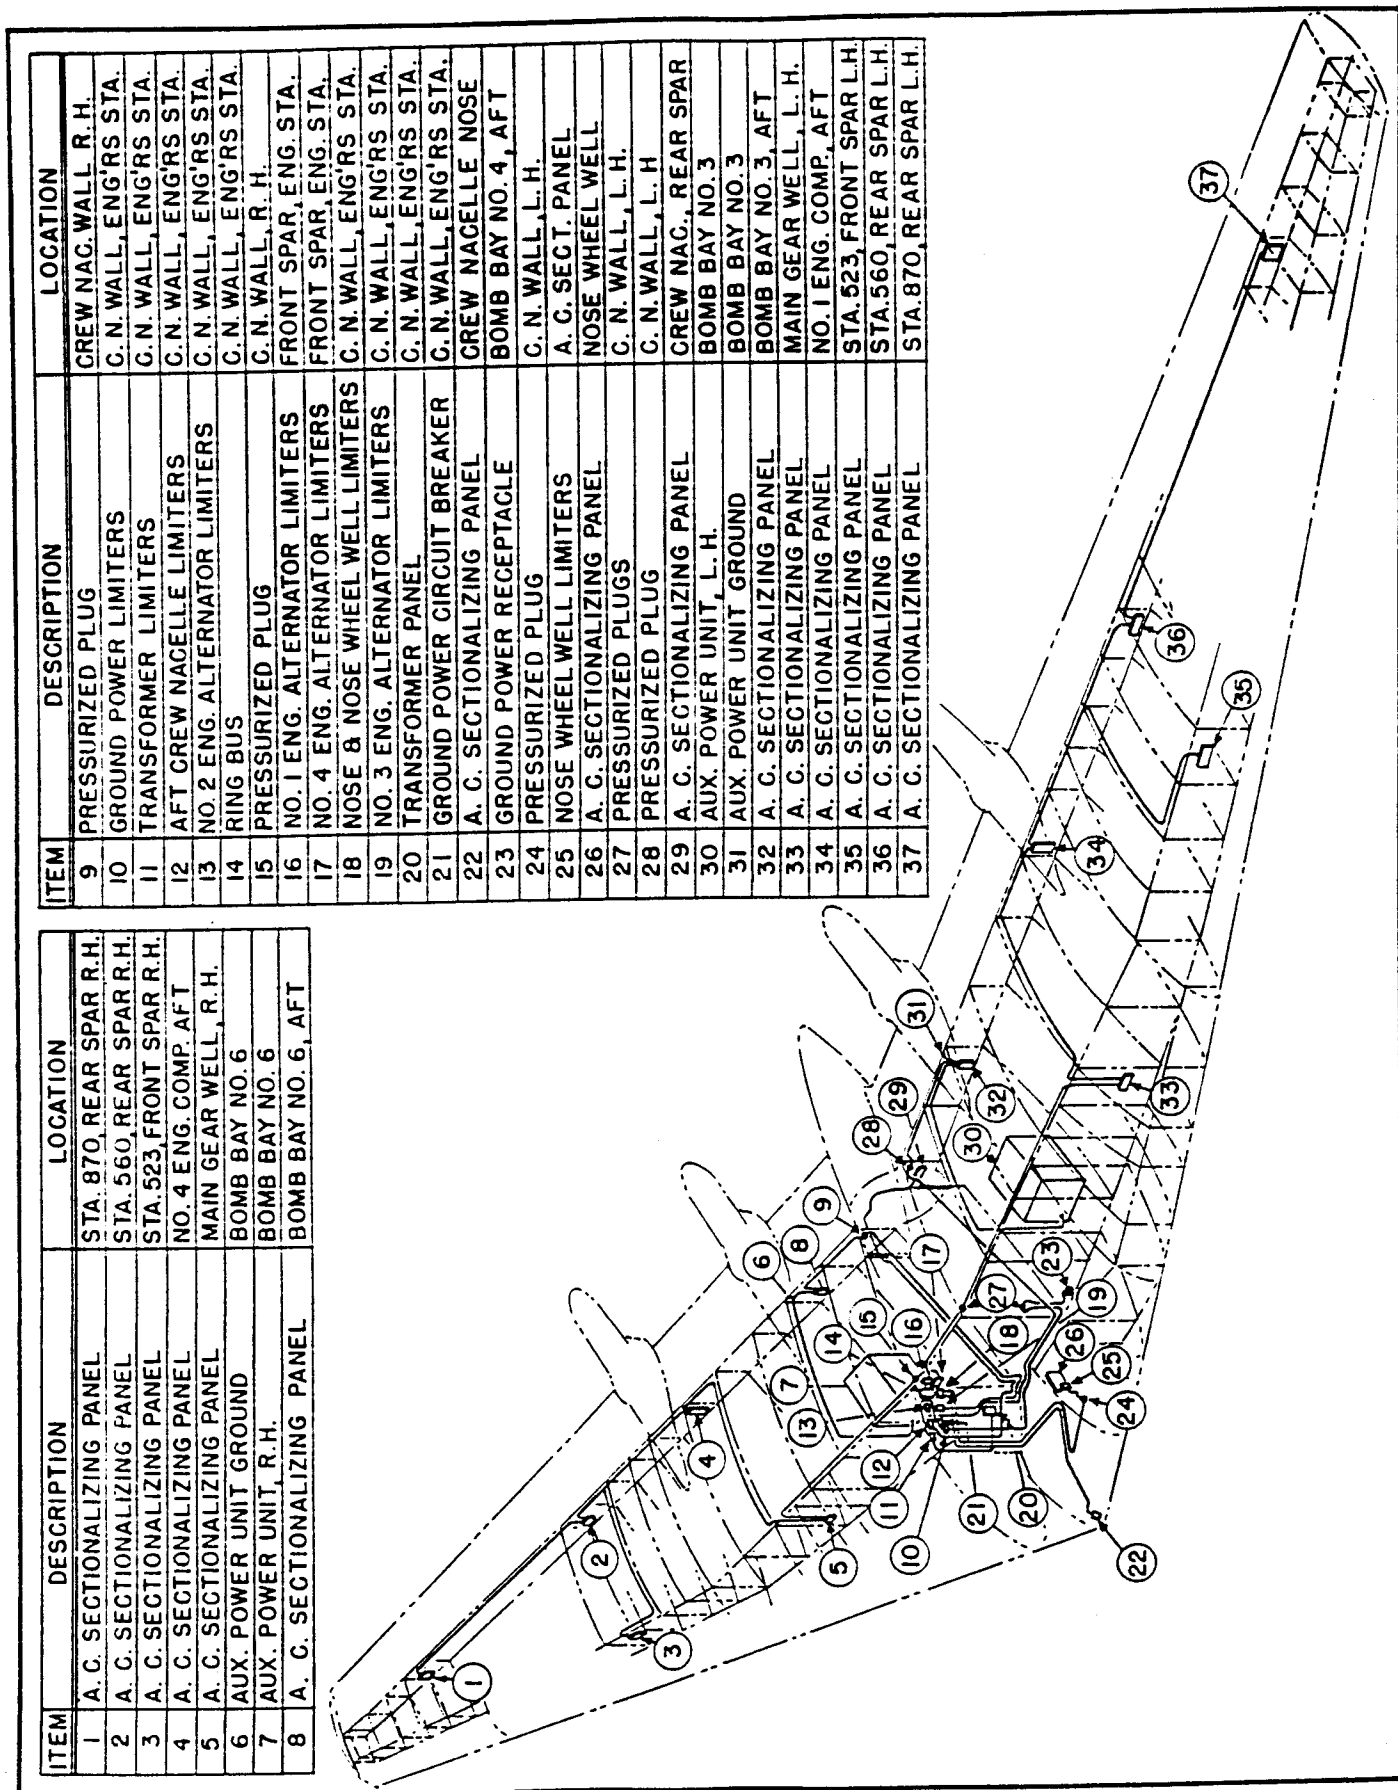

Figure 4. AC Power Distribution
(b) ALTERNATOR POWER OUTPUT WIRING.- The power leads from the alternator enter the voltate control box on the power unit, pass through two current transformers and a paralleling relay, then emerge and run to an a.c. sectionalizing panel in the aft end of the respective bomb bay. See figure 4.
(5) A.C. POWER DISTRIBUTION. (Refer to figure 4.)